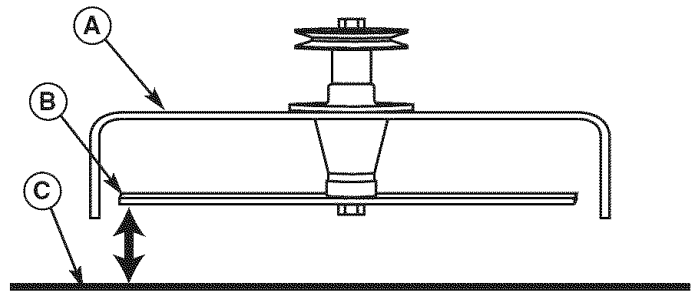
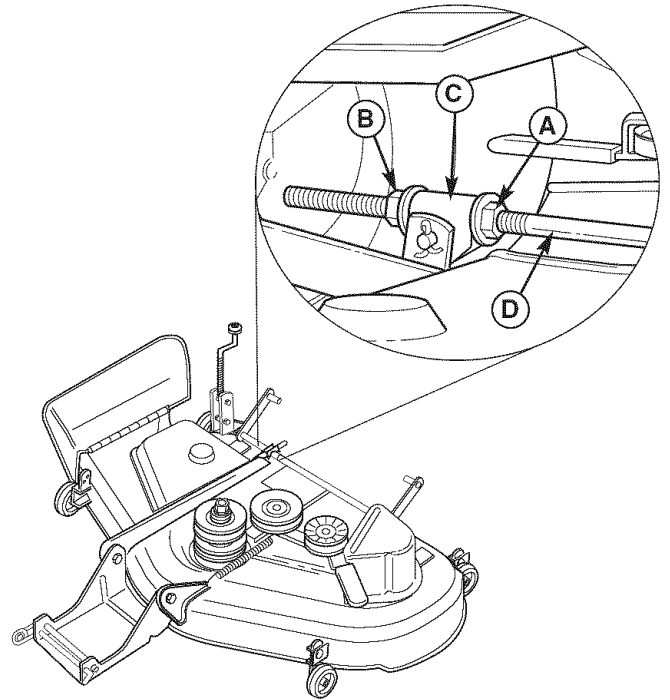

Figure 33. Measure Blade Tips to Ground
**Figure 36. Orient Blades Front-to-Back**
5. Measure the distance between the tips of the outside blades and the ground (Figures 33 & 34). If there is more than 1/8" (3mm) difference between the measurements on each side, proceed to step 6. If the difference is 1/8" (3mm) or less, proceed to Front To Back Leveling.
1. Turn the blades front-to-back as shown in Figure 36. Measure the distance from the ground to front tip of center blade, and from ground to rear tips of left hand and right hand blades (Figures 33 & 36). Front tips should be 1/8"-1/4" (3-6 mm) higher than rear tips. If not, proceed to step 2.